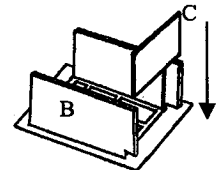
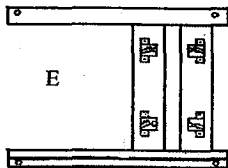
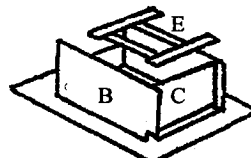

Figure 5
Figure 6
Figure 7
5. Install the Bottom (C): gently spread side panels (B) and insert bottom (C) into the grooves of side panel (B) until it touches the face frame (Figure 5).
6. Place Toe Kick (D) onto the side panels at the front base of the vanity. Align the cam locks and lock them
7. Install the Back Panel: before you start this step, put the back panel (E) on a flat surface face up. Install the drawer rail holders (M) in the pre-spotted area on the back panel (Figure 6). The opening of the holders should be facing towards each other. Secure them with 1/2" round head screws (M). Align the back panel and make sure the bottom panel fits the groove of the back panel (Figure 7). Gently spread side panels (B) and make sure each of the cam screw on the back panel well fits the can lock on the side panels. Then lock them.